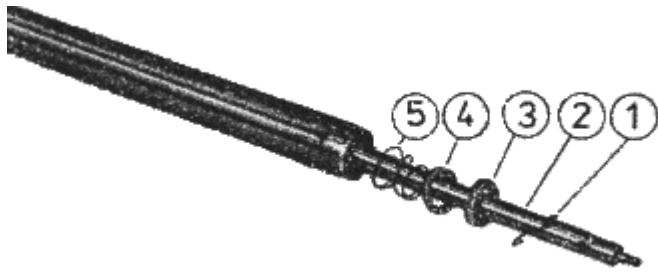

Fig. 93. Demounting throttle, valve plate and spring
Place the compression spring (5) having a diameter of 27 mm against the lock ring and fit the valve plate (4) pointing to the following throttle with the ground side. Then smooth the throttle (3) on one side, opposite to the radius and the milled in portion, by means of fine abrasive cloth on a surface plate, and mount it so that the smoothed side points to the valve plate (Fig. 93).
Fit the annular ring (1). For reasons of safety use new rings whenever possible, and take care that the ring is properly seated in the groove (see Fig. 93).